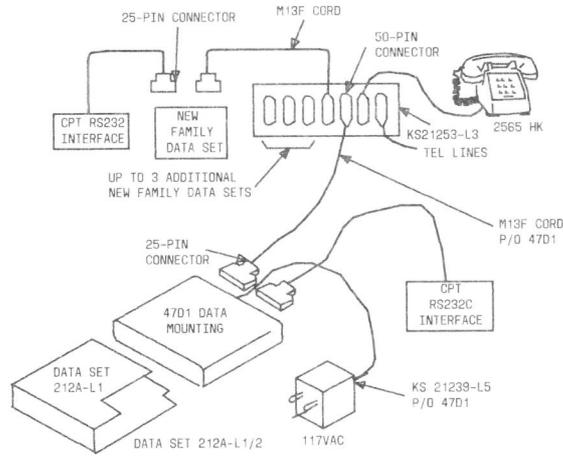
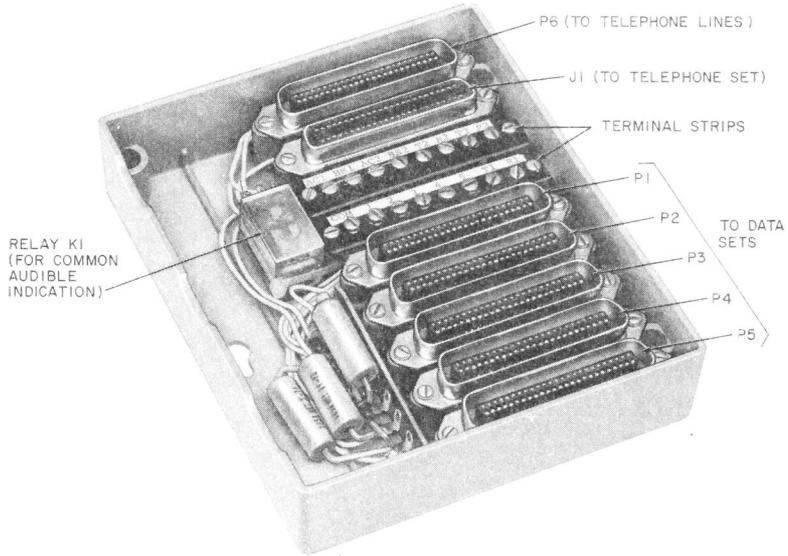
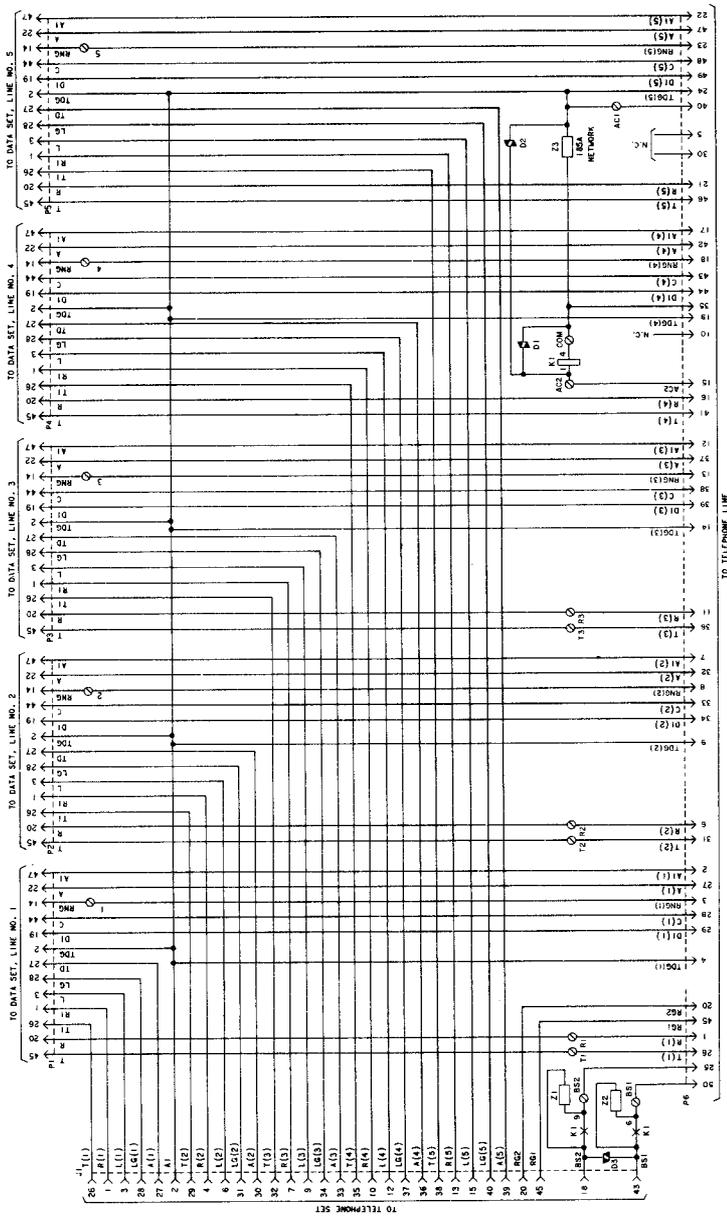

Fig. 9—Single Data Set With Shared Tel Set
Fig. 10—KS-21253-L3 Adapter With Cover Removed
Fig. 11—Internal Wiring of KS-21253-L3 Adapter
4.06 Single Data Set With Shared Telephone Set: If DS 212A-L1A/2A shares the telephone set with other DSs 212A or other new family data sets, the connections are made as shown in Fig. 9. To eliminate the need for several 110-Vac outlets, the individual KS-21239-L5 transformers can be plugged into a multiple power outlet strip. A 602-15 Waber Electric power outlet strip accommodates three transformers. A 1A2 power panel accommodates six transformers. A KS-14532-L20 or equivalent cord is required with the 1A2 power panel. Figure 10 shows the KS-21253-L3 adapter used with this arrangement. Figure 11 shows the internal wiring of this adapter, and may be useful in troubleshooting.